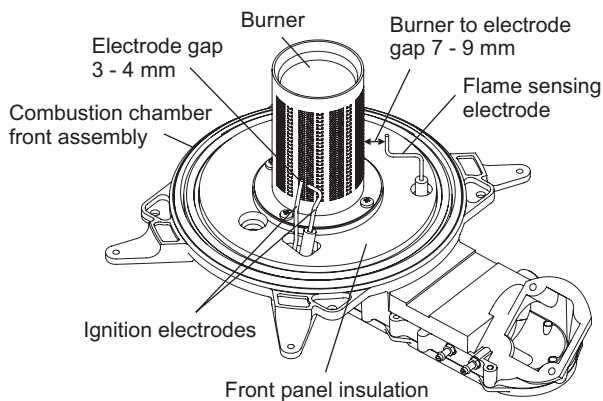

Fig. 6.2 - Pro Tec Plus 50
6. Check the spark gap, positioning and height of the electrodes. Refer to Fig. 6.2 or 6.3.